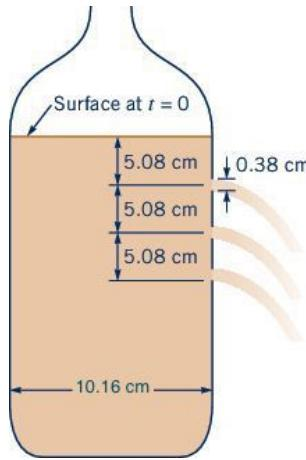

Figure 10: see problem 5
**Problem:** Soda (with the same properties as water) flows from a  $10.16 \text{ cm}$  diameter soda container that contains three holes as shown in Figure 10. The diameter of each fluid stream is  $0.38 \text{ cm}$  and the distance between holes is  $5.08 \text{ cm}$ . If viscous effects are negligible and quasi-steady conditions are assumed, determine the time at which the soda stops draining from the top hole. Assume the soda surface is  $5.08 \text{ cm}$  above the top hole when  $t = 0$ . (The final integral can be evaluated numerically.)